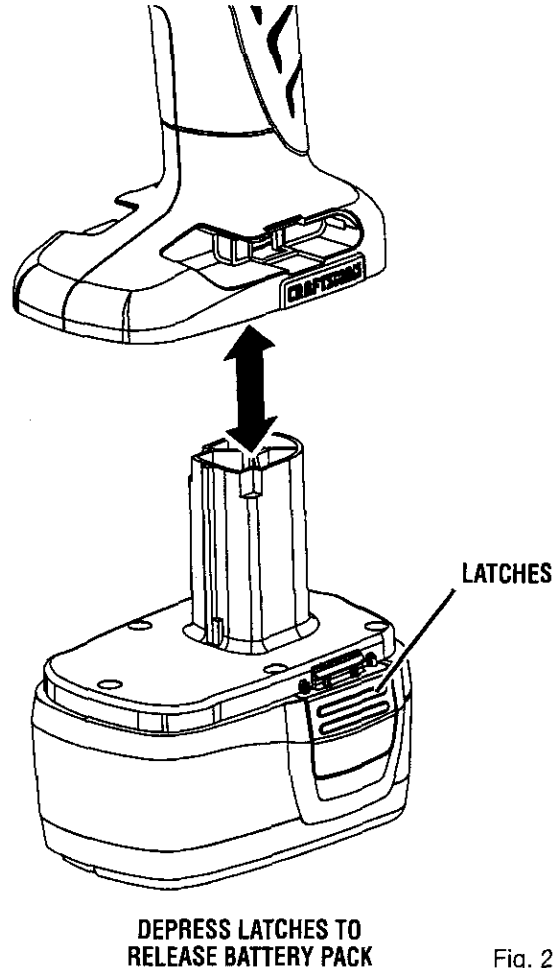

Fig. 2
- Place the battery pack in the charger aligning raised rib on the battery pack with the groove in the charger. See Figure 2.
See Figure 2.